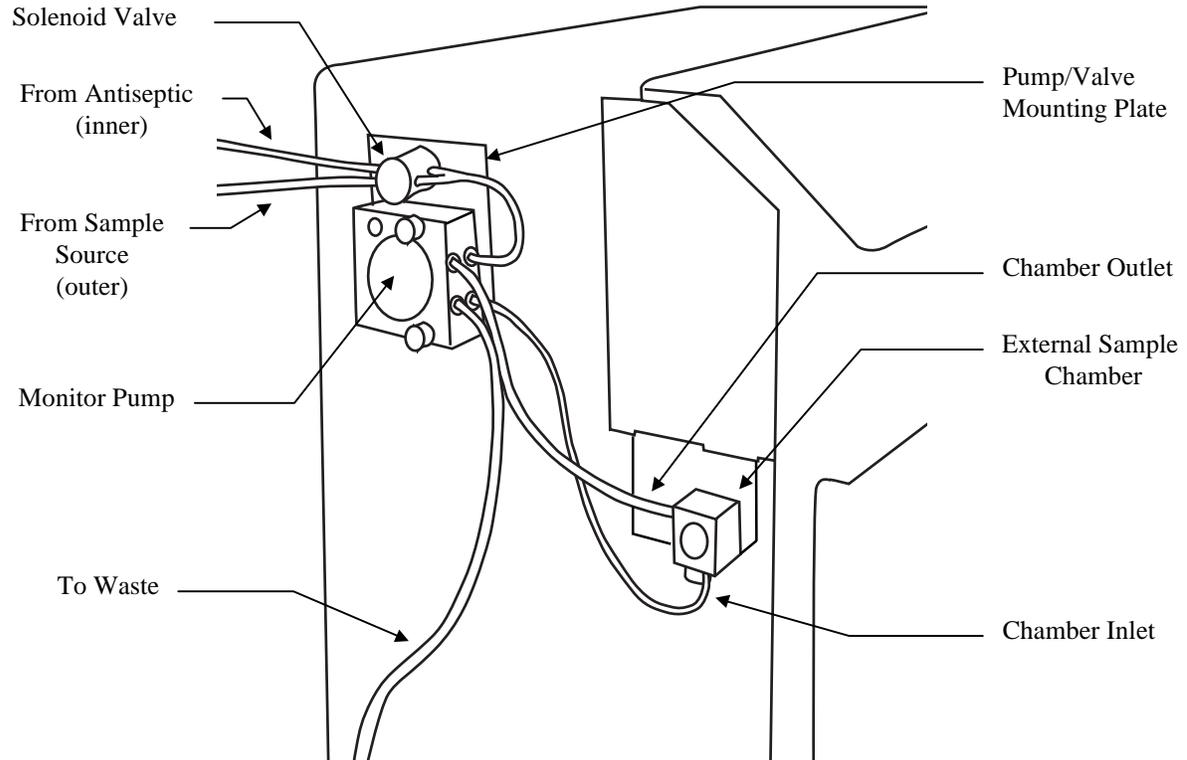

Figure 4 Pump Installation
12. Install the Monitor Pump/Solenoid Valve Assembly from the inside by positioning the two studs through the Pump/Valve Mounting Plate. Be certain that the solenoid valve is above the pump. Refer to Figure 4. Reuse the two 5/16" locknuts that were removed above and secure the Pump/Valve Assembly.
15. Slip the External Sample Chamber assembly over the sheet metal edge of the 2700. Use one of the 5/16" locknuts with the flat washer provided to loosely hold the bracket/chamber assembly in position for now. See Figure 4 for orientation.
16. Connect the tubing as shown in Figure 4. The 2 inches of small tubing coming from the outside position of the solenoid valve goes to the sample source. The 2 inches of small tubing from the inside position of the solenoid valve goes to the antiseptic. Extend these with the silicone tubing provided to a length that suits your setup. The 6 inches of small tubing coming out of the pump head slips over the stainless steel chamber inlet. The 6 inches of large tubing coming from the pump slips over the barbed chamber outlet. The remaining 3 foot length of large tubing goes to a suitable waste container (not included).